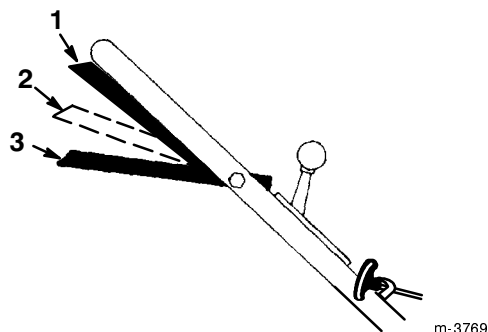

Figure 13
3. Squeeze the control bar against the handle to the *Run/Drive* position (Fig. 13).
Note: Do not shift speeds while you squeeze the control bar against the handle in the *Run/Drive* position; this can damage the transmission. Move the control bar to the *Run/Shift* position (Fig. 13) when you change the ground speed.